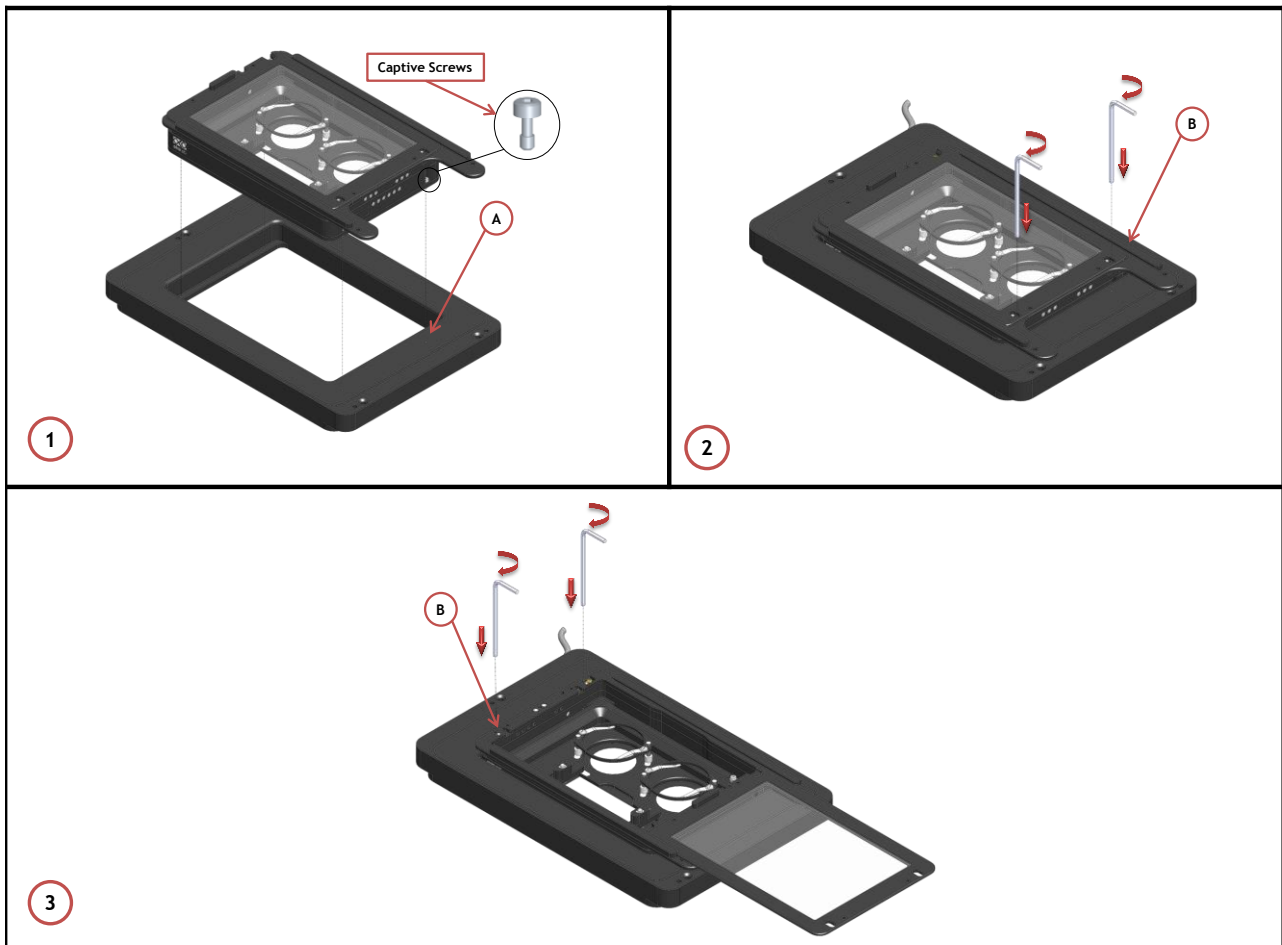

Figure 20. Connection of the Chamber with XY Stage
Follow the steps shown in the images of Figure 20 and listed below in order to correctly connect the chamber with Z piezo stage.
1. Place the chamber on the stage and tighten 2 captive screws (See Image 2 of Figure 20). Captive screws housings are indicated with letter B in Image 2 of Figure 20
2. Use a 1.5mm metric Allen Wrench to tighten the two captive screws (B in Image 3) while keeping the chamber sliding lid closed (See Figure 20 Image 3)